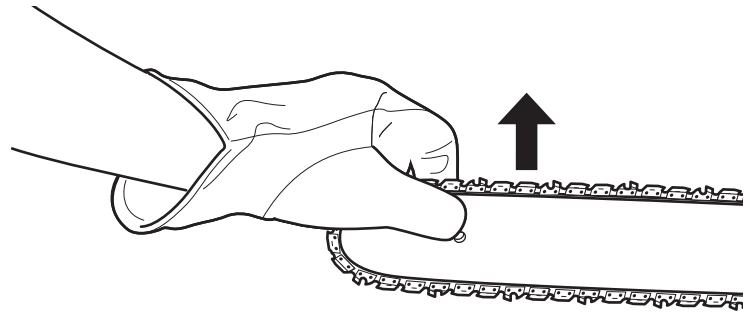
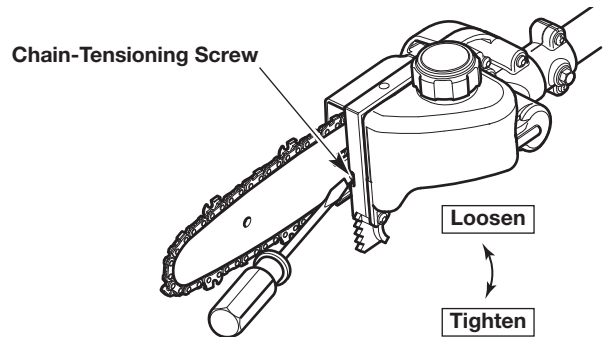

Fig. 14
Fig. 15
2. Hold the guide bar tip up (Fig. 14) and use a flat-head screwdriver to turn the chain-tensioning screw (Fig. 15).